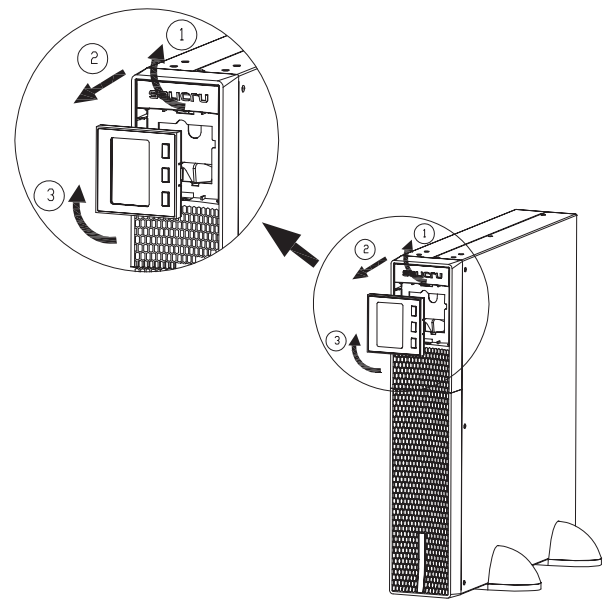

Fig. 7. Rotation of the control panel with LCD display on the plastic front trim.
- The device is initially set up at the factory for installation as a rack. To facilitate the reading of messages on the display when the device is installed vertically, it is advisable to rotate the control panel clockwise by 90° (see Fig.7).